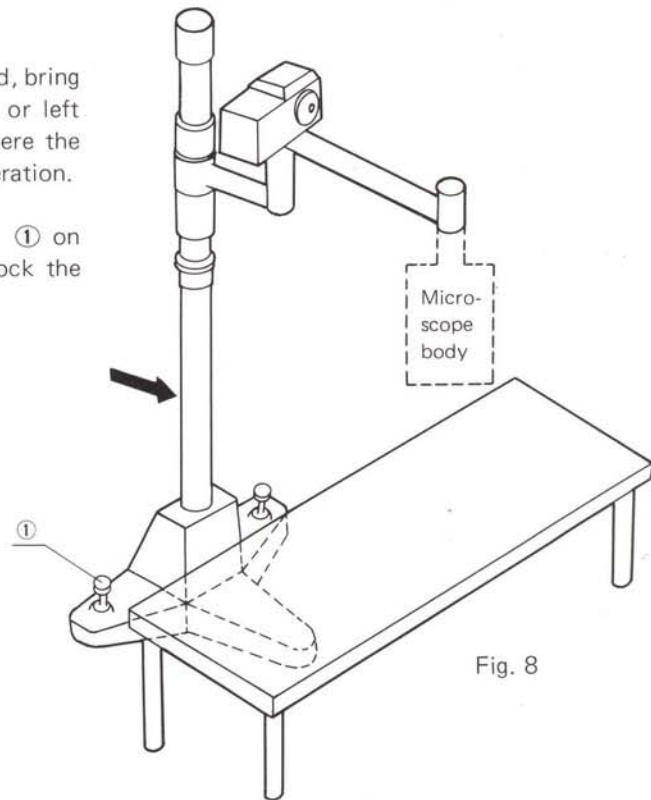

Fig. 8
- 2) Pushing the lower part of the stand, bring the microscope to the right side or left side of the bed (see Fig. 8) where the tripod base does not block the operation.
- 3) Pressing down the locking pins ① on both sides of the tripod base, lock the base.
- 1) In principle, it is recommended to insert the longer leg of the tripod base under the bed (Fig. 8), although it may not be always practicable, depending on the bed design.